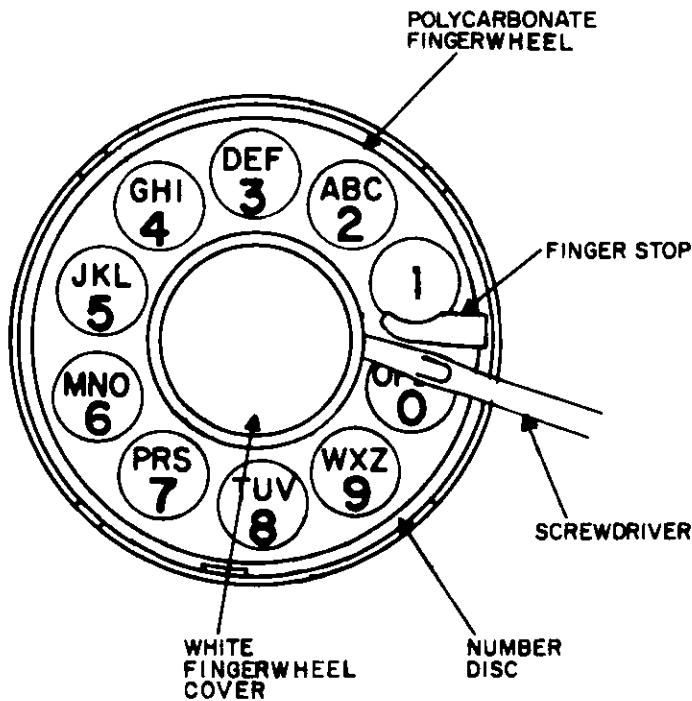

Figure 7a. Fingerwheel Cover Removal.
- (1) Remove the white fingerwheel cover from the center of the dial assembly with a small pocket screwdriver.
- (2) Holding the screwdriver in your right hand, parallel to the fingerwheel, insert the screwdriver tip into the small slot across from the finger stop and carefully pry the fingerwheel cover up (see Figure 7a).